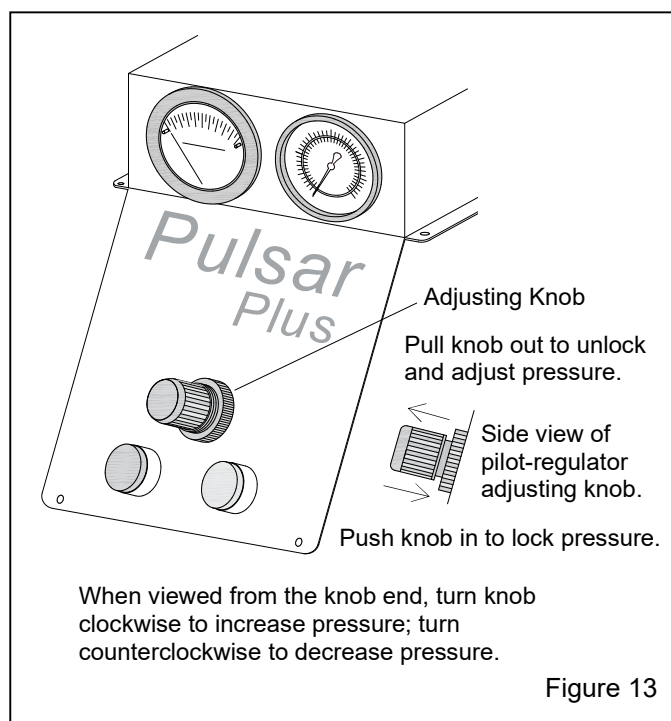

Figure 13
4.5.6 Adjust the pilot pressure regulator to the required blast pressure, per Section 5.1. The blast-pressure regulator knob is located on the upper right side of the cabinet's control console, as shown in Figure 13.
5.1 Blasting Pressure (pilot regulator) – Figure 13
5.1.2 To adjust pressure, unlock the regulator knob by pulling it out, as shown in Figure 13, and turn it clockwise to increase pressure or counterclockwise to decrease pressure. Pressure may drop slightly from closed-line pressure when blasting starts. Once operating pressure is set, push the knob to lock it and maintain the setting.